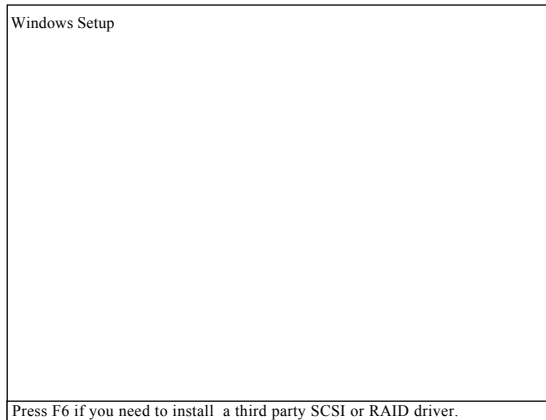

Figure 23
1. Boot from the Windows 2000/XP Installation CD. Press <F6> as soon as you see the Press F6 if you need to install a third party SCSI or RAID driver message (Figure 23.)